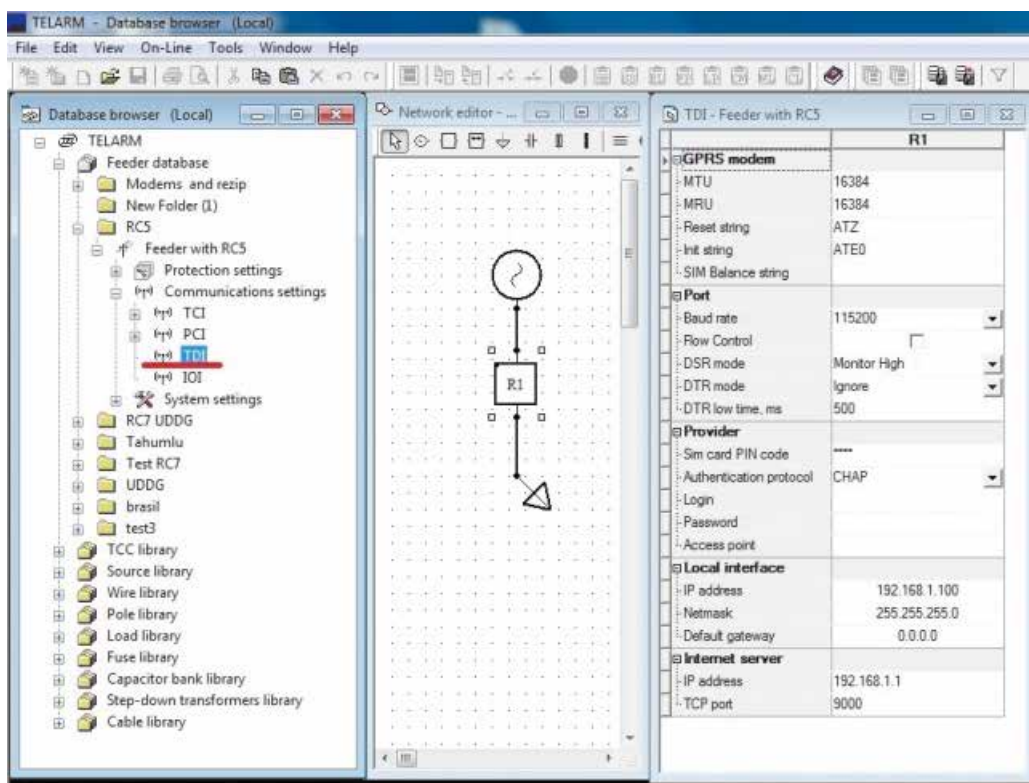

Figure 46
- 3) In Database browser, open the appropriate network model (Figure 46);